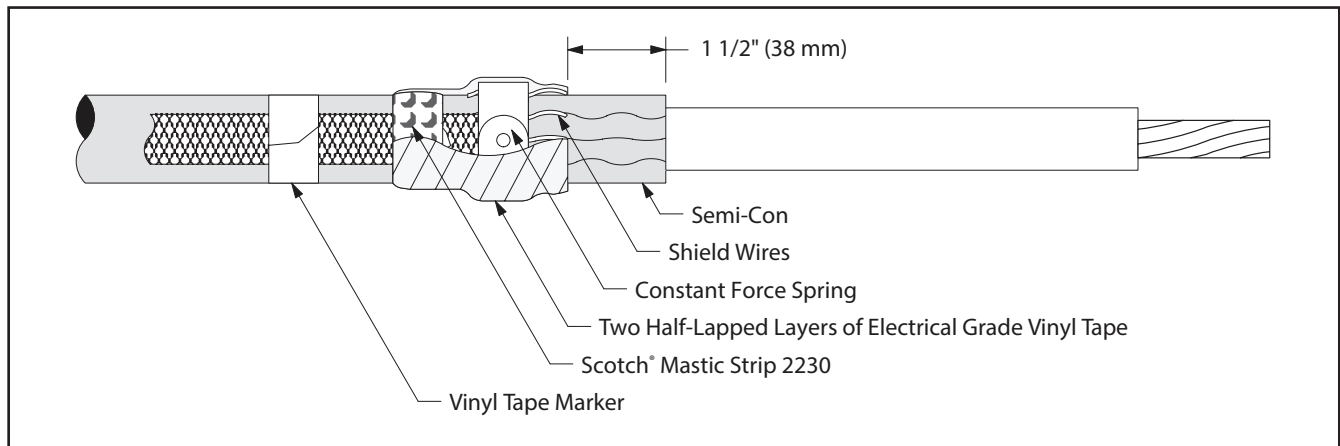

Figure 21
- 13.5 Wrap two highly stretched half-lapped layers of electrical grade vinyl tape around mastic seal, constant force spring and exposed shield wires (*Figure 21*).